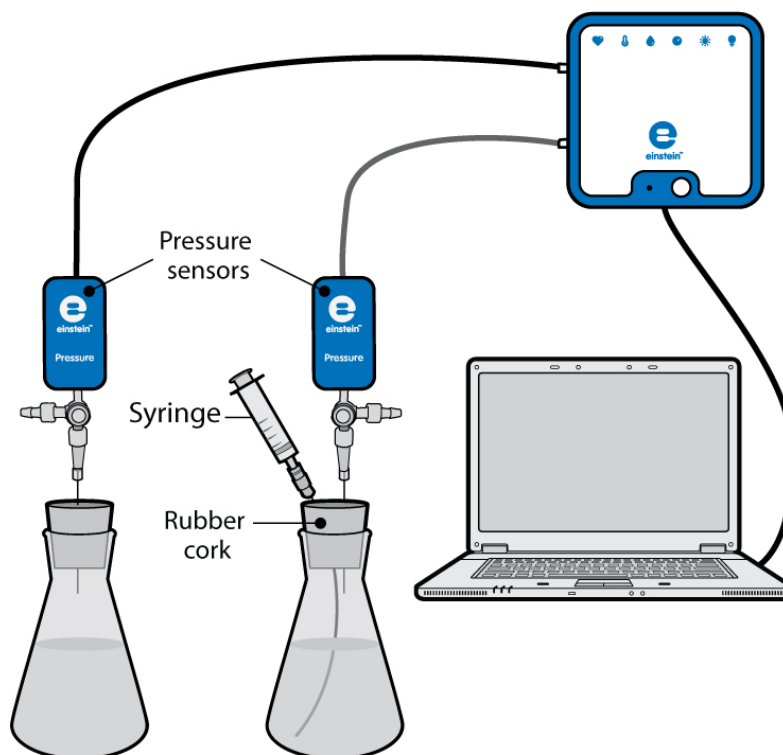

Figure 1
3. Assemble the equipment as illustrated in Figure 1.